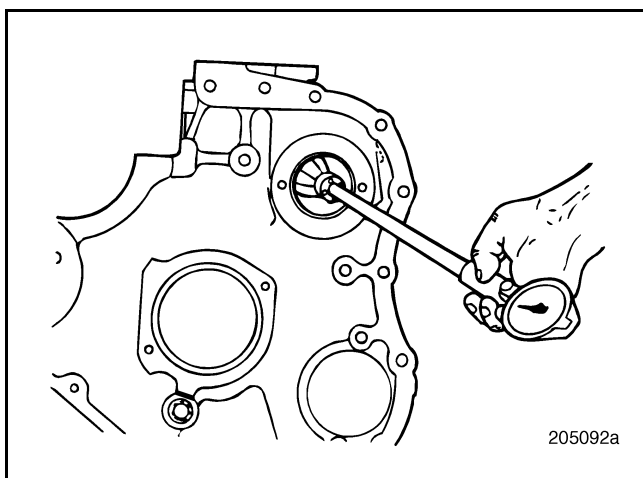

Figure 140 — Auxiliary Shaft Bushing ID Check
1. Using a telescope gauge or inside micrometer, measure the auxiliary bushing bores. Take two readings, perpendicular to each other, in each bore. Record the readings. Refer to Figure 140.